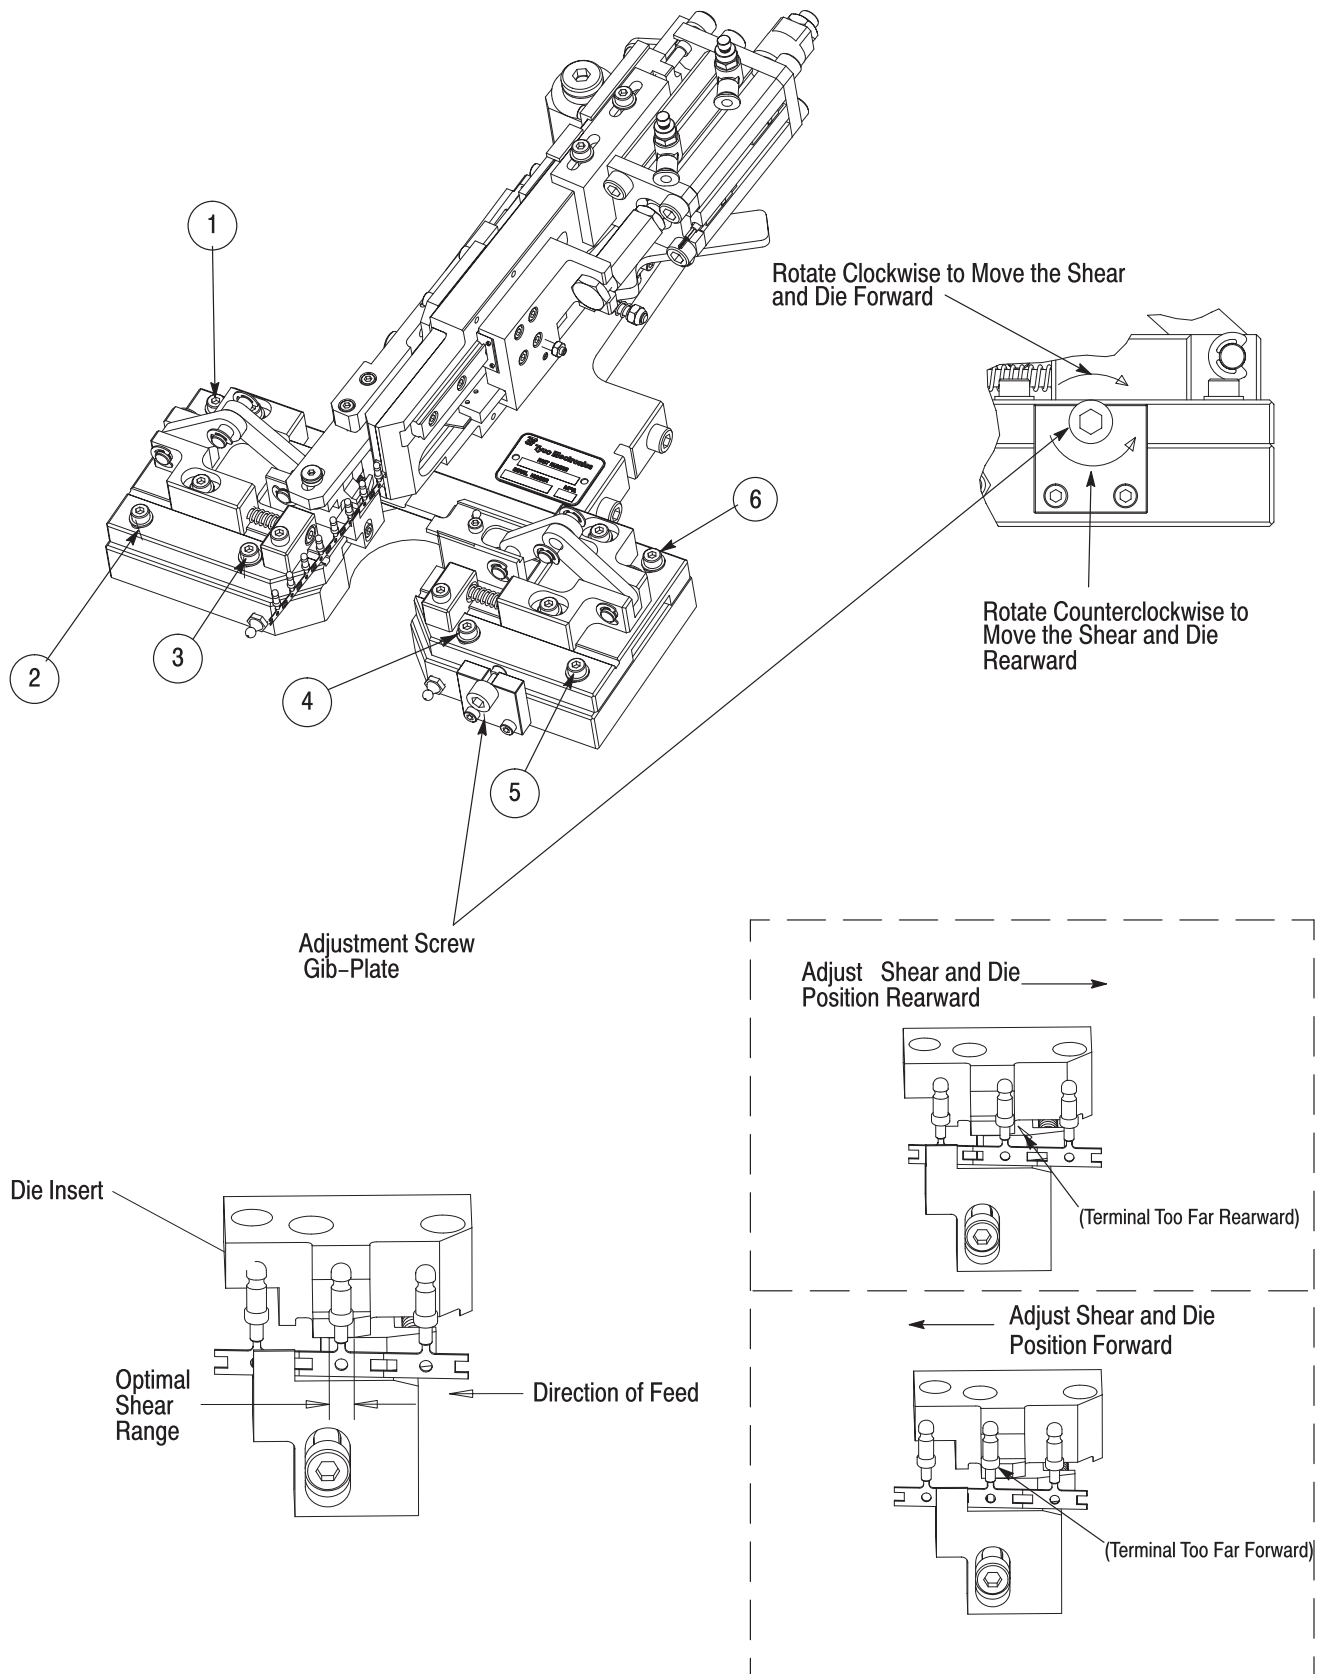

Figure 18
2. With a terminal properly fed and gripped in the inserter, examine the position of the terminal in relation to the die insert (see Figure 18).
3. If the terminal being sheared is not positioned properly on the die insert, loosen the six gib plate mounting screws (numbered 1 through 6 in Figure 18).